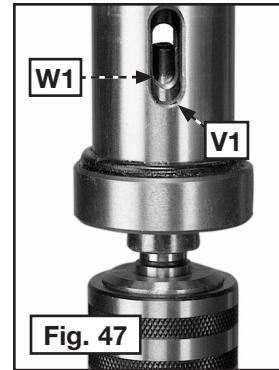

Fig. 47
1. Align the slot in the quill (V1) Fig. 47 with the slot in the spindle (W1).